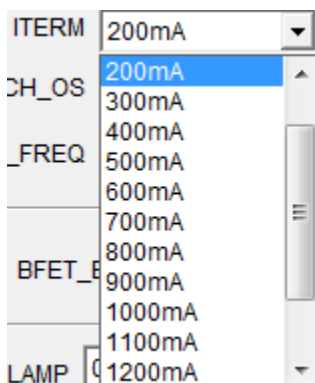

Figure 10: Charge Termination Current Configuration
8. Set the charge termination current (see Figure 10).